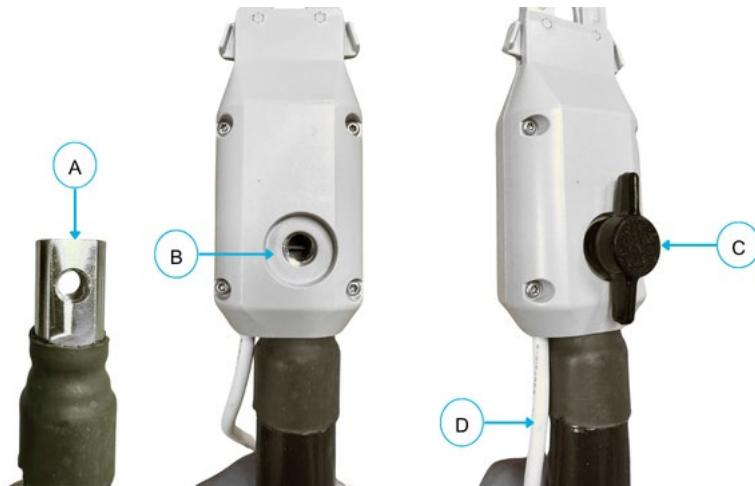

Figure 10-31: Delivery Device Attachment
1. Align the hole in the Delivery Device Attachment (**B**) with the hole at the top of the Stabilizer Arm (**A**) (**Figure 10-31**).